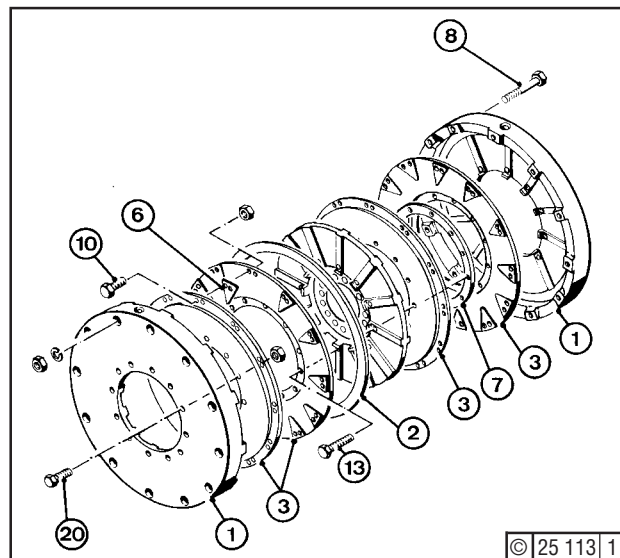

Fig. 2
Remove hex. bolts (8) - Fig. 2 - and hex. plates (1). Now unscrew hex. bolts (13) and take off threaded ring (7). The four damping discs (3) - two of each fastened together to form a pair - can now be removed, and also the ring (2). Screw out hex. bolts (10). Separate damping discs (3) and triangular plates (6). Clean and inspect all components, renewing as necessary. Renew damping discs (3).